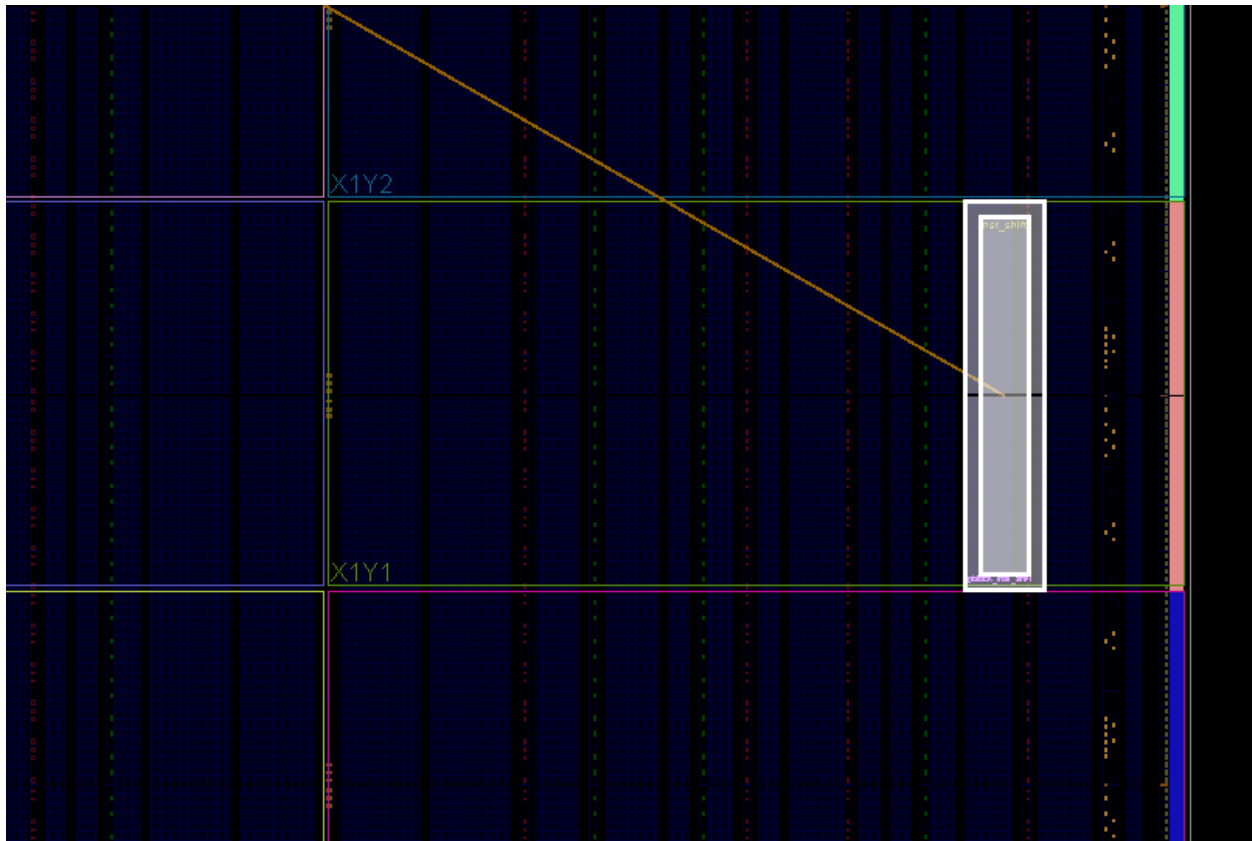

Figure 4: Pblock for the aligned `inst_shift` Reconfigurable Partition
5. To resolve the first DRC error, make sure that the height of the Pblock aligns with the clock region boundaries. Using the Pblock for `inst_shift`, stretch the top and bottom edges to match the clock region boundaries of X1Y1 as shown in Figure 4. Note that the shading of the Pblock is now more uniform.